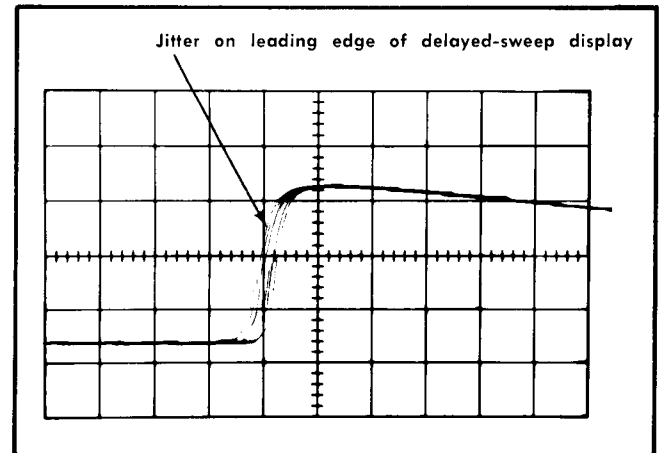

Fig. 6-53. Typical crt display when checking delay-time jitter.
- Check—Jitter on the leading edge of the pulse should not exceed 0.5 division (1 part in 20,000); see Fig. 6-53. Ignore slow drift.
- Check—Jitter on leading edge of the pulse should not exceed 0.5 division; see Fig. 6-53. Ignore slow drift.